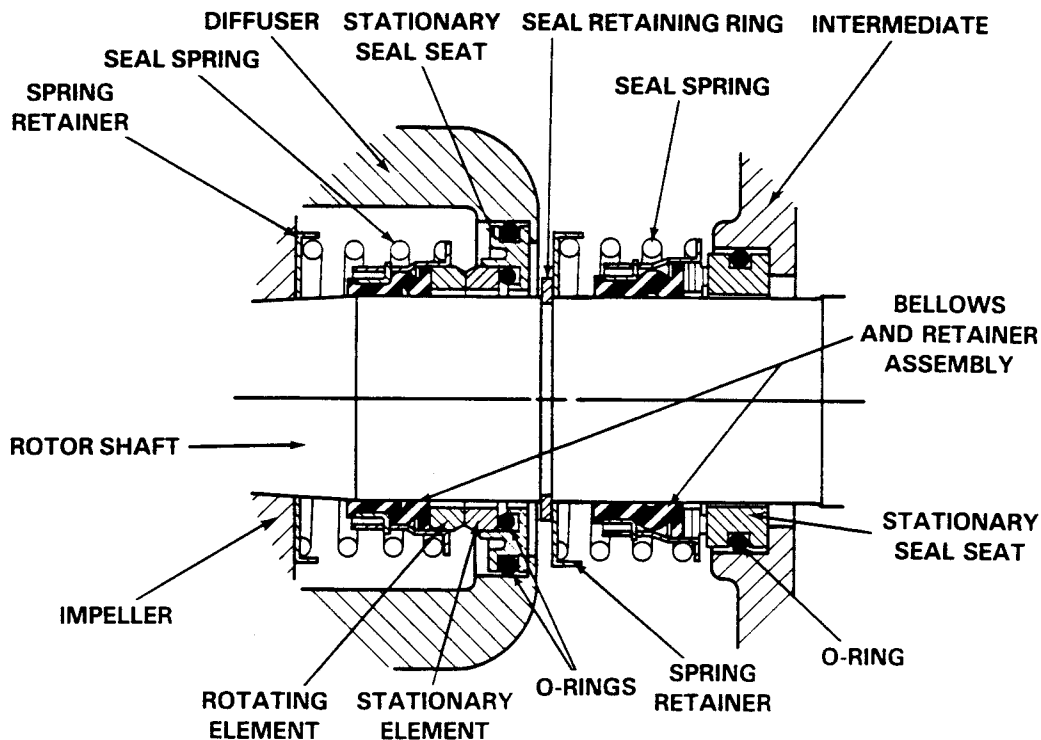

Figure 2. Seal Assemblies 46512-055 and 25271-947
See Figure 2
Slide the seal spring over the shaft and bellows retainer. Install the spring retainer and seal retaining ring (84). See Figure 2 for proper order of seal assembly.
See Figure 2.
Slide the seal spring over the shaft and bellows retainer and install the spring retainer washer. See Figure 2 for proper order of seal assembly.